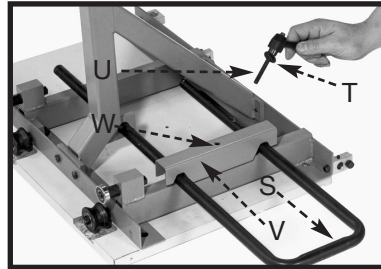

Fig. 31
6. Place the 5/16" flat washer (T) Fig. 31 on the shaft end of the lock handle assembly (U) and place the handle support bracket (V) in position over the handle (S). Insert the threaded end of the handle assembly (U) through the hole (W) in the support bracket (V) and tighten the handle assembly (U).